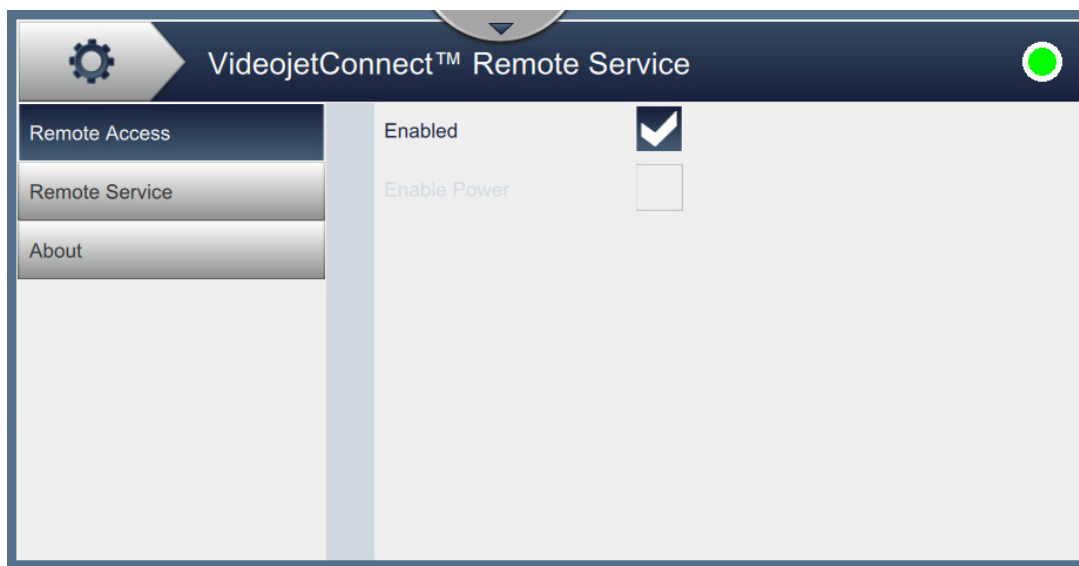

Figure 6-26: VideojetConnect Remote Service Screen
1. Touch the  button from the Tools screen. The VideojetConnect Remote Service screen opens as shown in the Figure 6-26.